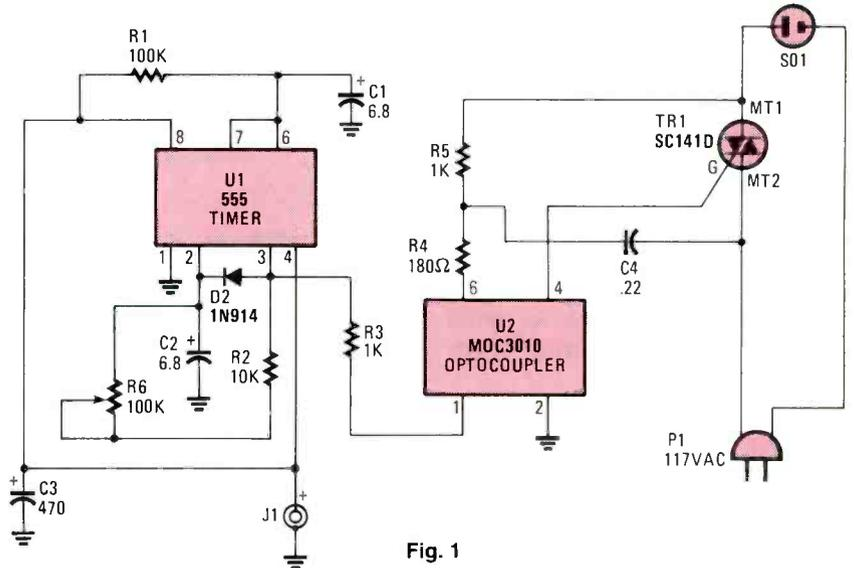

Fig. 1
First, make sure that the receiver is well-shielded. Poor shielding rarely shows up on costly, modern rigs, but is a strong possibility on lower-cost receivers and on homebrew equipment. Most transceivers have adequate shielding because of the requirements of the transmitter in the same cabinet with the receiver. But if there are any holes in the shielding, then cover them up with sheet metal or copper foil (available in hobby shops). For others, the best approach is to use one of the methods shown in Figs. 1 through 3. In all cases, you must identify one of the interfering frequencies, or (in some cases) at least the band.
**Fig. 1—A quarter-wave shorted-stub can be easily connected to the transmission line by using a T-connector. Alternately, the stub can be automatically switched in and out through a T-R (transmit-receive) relay**
A non-matching load impedance attached to the business end of a transmission line repeats itself every half-wavelength back down the line towards the input end. For example, if a 250 ohm antenna is attached to the load end of a half-wavelength piece of 50-ohm coax, an impedance meter at the input end will measure 250-ohms. Lengths other than integer multiples of a half-wavelength will "see" different impedances at the input end. The phenomena is the basis for transmiss-on-line transformers used for antenna matching. Therefore, if we short the end of a piece of coax (see Fig. 1), the input end will "see" a short-circuit at the frequency for which the coax is a half-wavelength. The interfering frequency will be shorted to ground, while the desired frequency sees a high impedance—provided that the two frequencies are widely separated. The length L is found from:
The method shown in Fig. 1 is best suited to cases where the interfering signal is in the VHF region. Because the length of the coax stub is very short relative to the
A correlation between the operation of a gas engine of yesteryear and today's modern AC induction-type motors can be demonstrated by using the hit-N-miss, speed-control circuit in Fig. 1. The 555 timer (U1) operating as a very-low frequency oscillator (having a rate of less than 1 Hz) supplies drive current to the LED in the optocoupler, U2. The on-time drive current feeding U2 is controlled by R6 and can be set between a low of 10% up to a maximum of 50% on-time. A small 6- to 9-volt DC, wall plug-in supply that's connected to J1 takes care of the circuit's power needs. Triac TR1 (an SC141D 6-amp, 400-volt unit) can operate most small induction motors of 1/4-HP or less. And if needed, a triac with a greater power-handling capacity can be used for TR1.
### PARTS LIST FOR THE HIT-N-MISS SPEED CONTROL (FIG. 1)